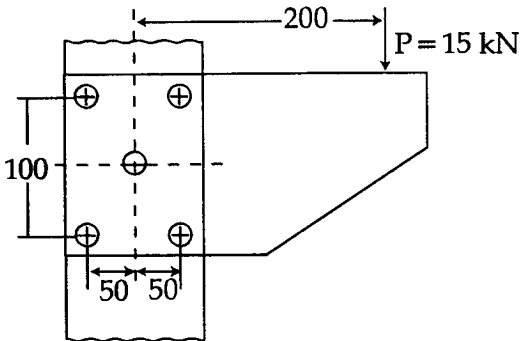

Figure 1.
3. What is the difference between a cotter and a key ? State the advantages and limitations of a cotter joint. Figure 1 below shows the rivetted joint with an eccentric load of 15 kN. The rivets are 24 mm in diameter. Find the max shear stress induced in the rivet. If the thickness of the plate is 15 mm, determine the crushing stress on the rivet. 14